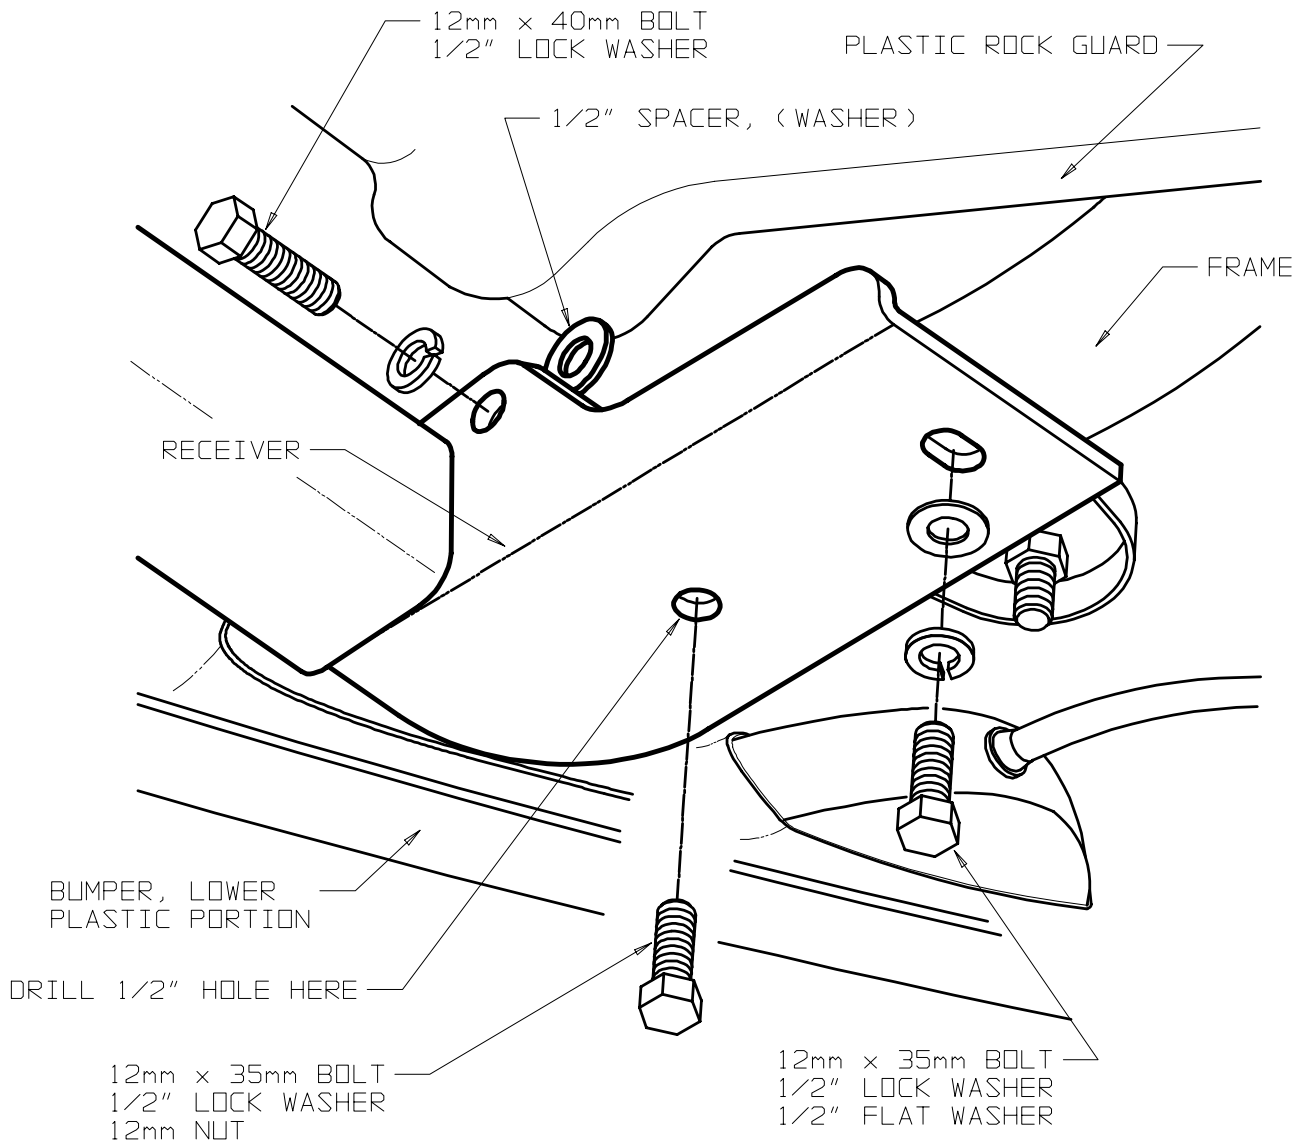

FIGURE 6
3. Lift Receiver into position as shown in **Figure 6**. Install the fasteners at the rear most location first and lightly tighten. Be sure the Receiver is centered side to side, then install the spacer washers and 40mm bolt. Drill 1/2" hole using receiver as a guide, then install 12mm x 35mm bolt. Install the 1/2" lock washer & 12mm nut through tow hook opening in bumper. Tighten all fasteners to the proper torque specification.